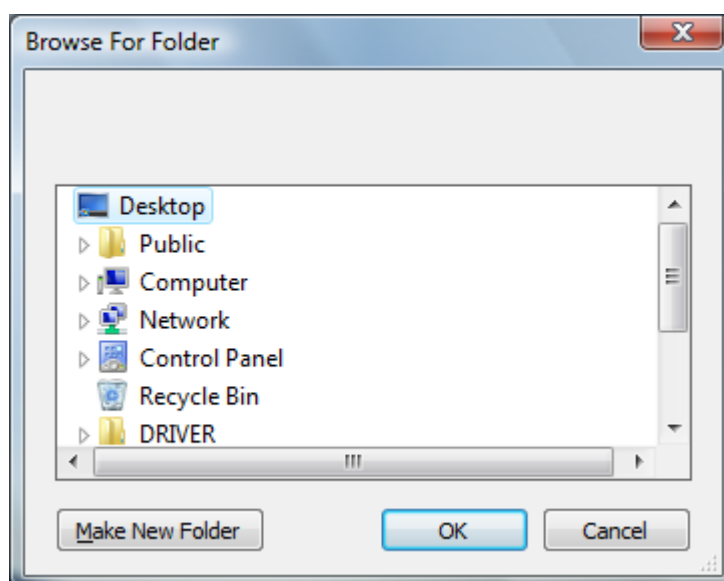

Fig.4-12 Screen of Browser
- In this case, please input the folder name in [Where Data will be saved] shown on top of the screen. Otherwise, select the folder from the browser (See Fig.4-12) available by clicking [Ref.] button ⑩ or create a new folder.